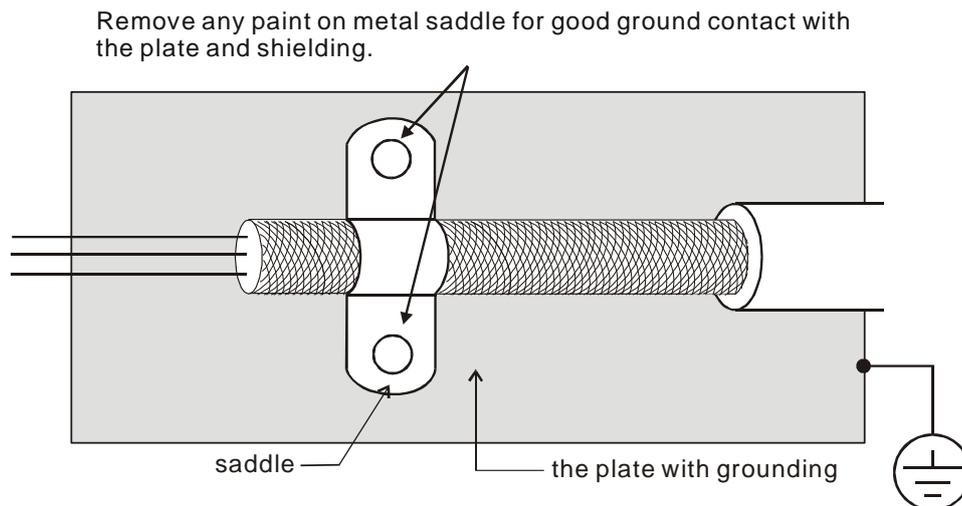

Figure 1
- ☑ Remove any paint on the metal saddle for good ground contact with the plate and shielding (see Figure 1 below).